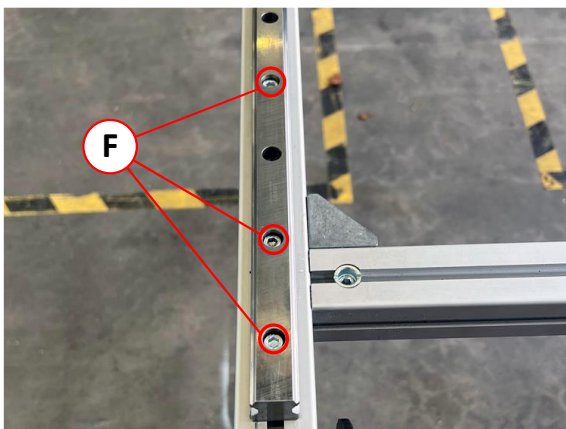
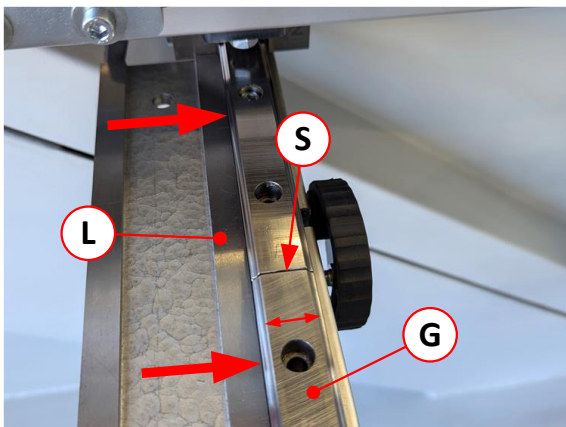

Figure 11: Arrangement of the guide fixing screws (F)
Figure 15: Check/correct alignment at the joint
9. Place a straight edge (L) alongside the guide rail (G) of the fixed frame and the element to be attached (see ⇒ Figure 15).
10. Now check the alignment from the front to the rear guide rail in the area of the joint (S):
- ➔ **If this is not the case**, loosen all the fixing screws (F) - see ⇒ Figure 11 - and adjust the guide rail (G) by manually moving it against the straight edge until there is no longer a gap. Then tighten all the fixing screws (F) again.